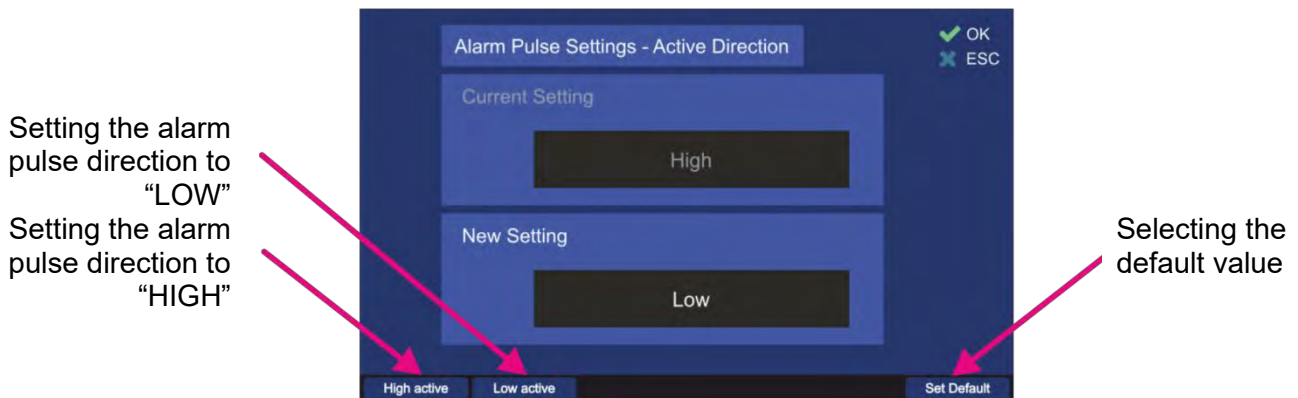

Figure 90. Active direction dialog
- By pressing the hotkey “Edit Value”, the dialog for changing the active direction of the alarm output will be opened. The handling of this dialog is shown in Figure 90.